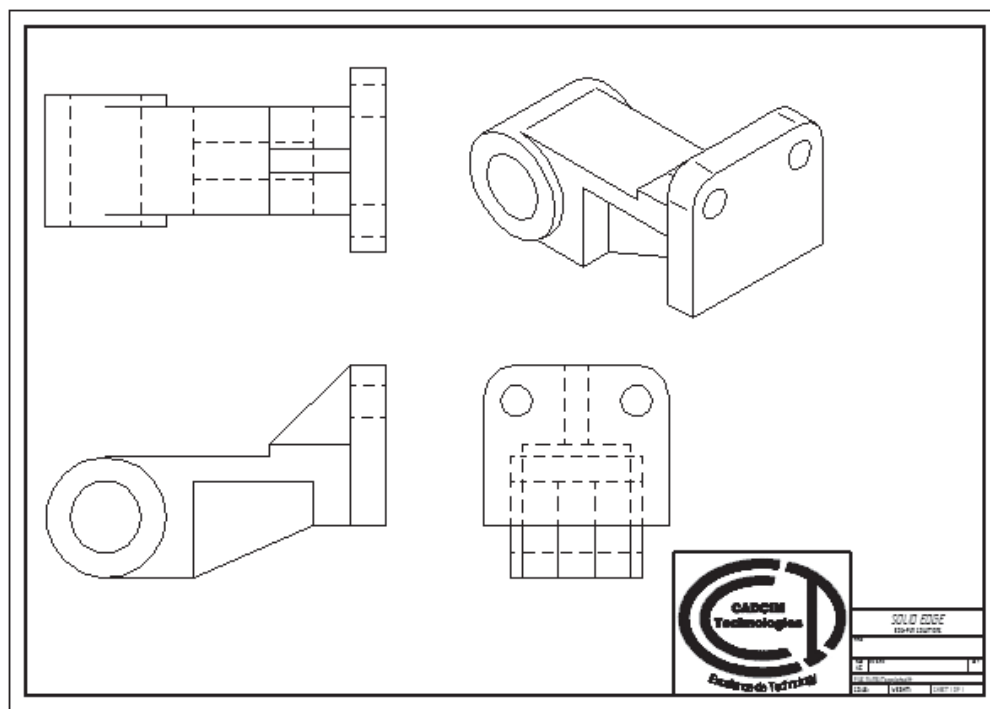

Figure 11-36 Sheet after generating all the drawing views
- d. Generate the drawing views, refer to Figure 11-36.
11. You can move the views on the sheet by dragging them. Arrange all views, as shown in Figure 11-36.